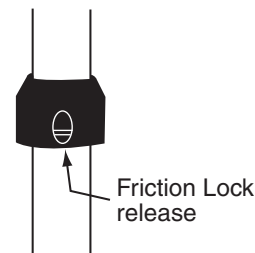

Figure 5
- ⑥ Adjust height by depressing friction lock to release upper portion of telescoping upright (see Fig. 5). Release friction lock to lock upright at desired height.